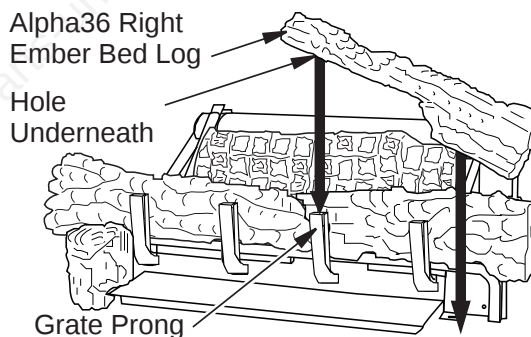

Figure 27 - Installing Right Ember Bed Log
4. The Alpha32 and Alpha36 use two different right ember bed logs. The Alpha32 right ember bed log is installed in the same manner as the log in step 3 above but on the right side. The Alpha36 right ember bed log has a hole in the bottom that sets on the grate finger and the other end rest on the fireplace floor, place log as shown in **Figure 27**. The back side of this log needs to rest against the front of the base assembly, make sure the flame from the ember pan does not touch the ember bed log.